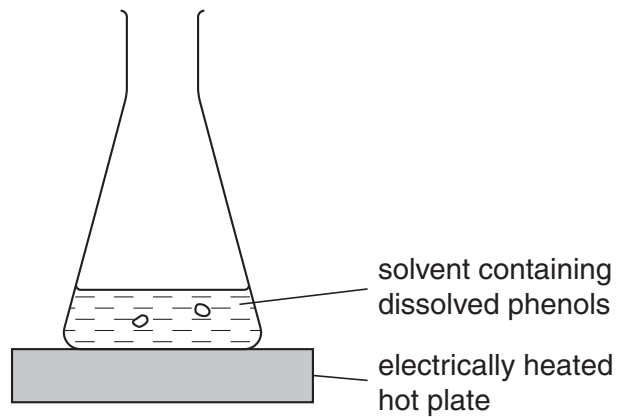

Fig. 1.2
- (v) Some students wanted to evaporate the solvent to obtain the phenols. They decided to carry out the method shown in Fig. 1.2, using a fume cupboard.